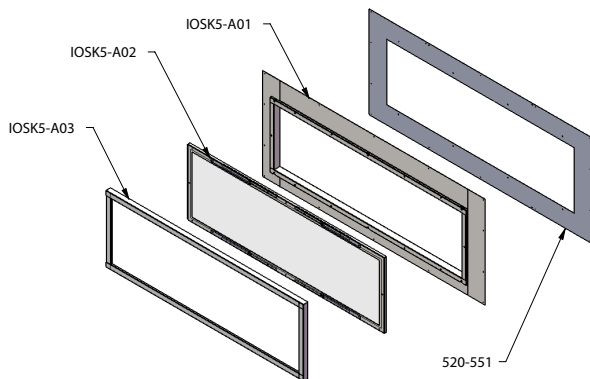

Figure 1: Indoor/ Outdoor Sealing Kit Components
**STEP 1:** Back frame the unit with the metal header supplied by Montigo above the unit and either combustible or non-combustible framing to the sides and bottom maintaining clearances as shown and ensuring the galvanized apron (Fig 1, Part No. 520-551) can be attached to the framing.
**STEP 4:** Attach the stainless steel frame (Fig. 1, Part No. IOSK5-A01) to the galvanized frame lining up the holes around perimeter. Secure in place through holes across the top and down the sides. Do not secure the bottom flange.
**STEP 7:** Mount the framed glass (Fig 1, IOSK5-A02) onto the unit and secure in place first with only the two side screws.
**STEP 9:** Attach the stainless steel trim (Fig1, IOSK5-A03), by placing it on and ensuring the magnets catch the previously placed galvanized strip.